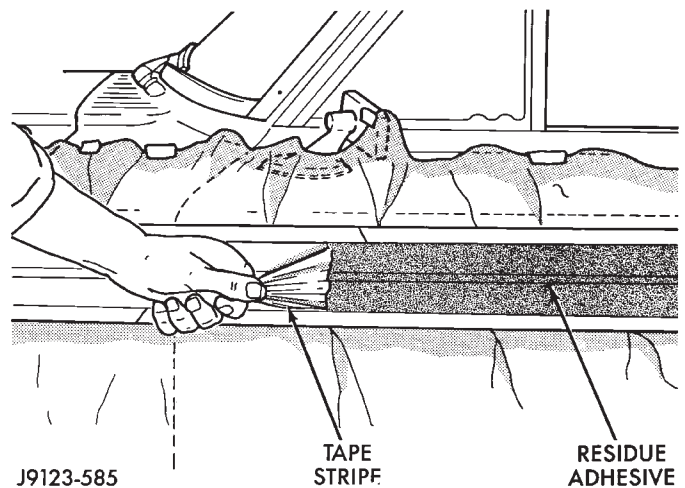

Fig. 62 Body Stripe/Decal Removal
- after 20 minutes, peel stripe/decal away from the flange and, starting at a corner, peel the stripe/decal from the body (Fig. 62);